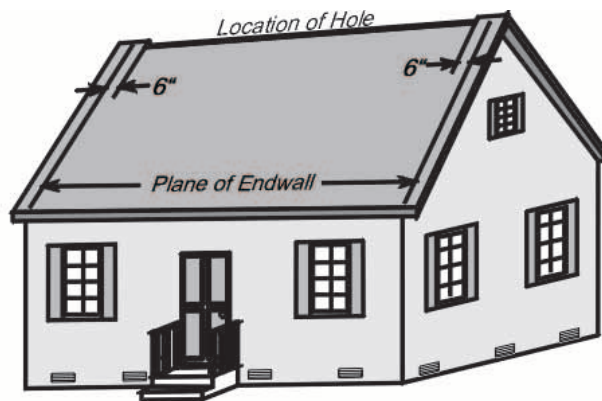

Figure 3
**NOTE: DO NOT CUT THE HOLE THE ENTIRE LENGTH OF THE RIDGE. THE LENGTH OF THE CUT WILL BE ONE (1) FOOT LESS THAN THE LENGTH BETWEEN THE END WALLS (SEE FIGURE 3).**
The length of the cut should end 6 inches inside each end wall as shown in Figure 3. Mark the width to be cut with a chalk line (for a straighter cut) and also mark the end of the cuts. The hole is best cut with a circular saw taking care to set the depth of the cut to avoid cutting any rafters.